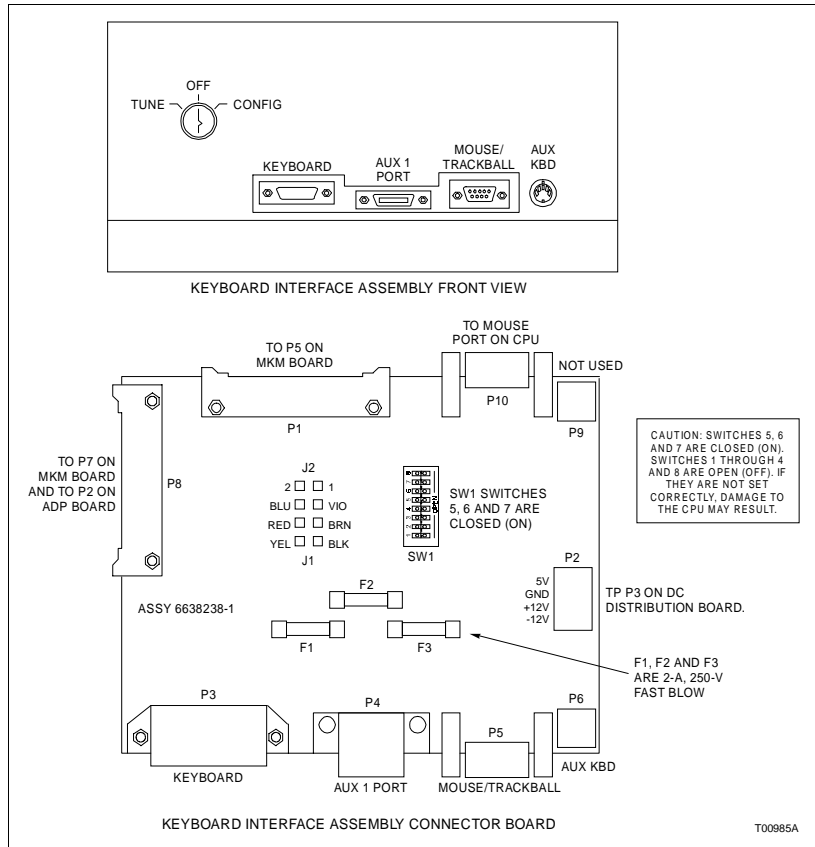

Figure 6-8. Keyboard Interface Assembly
The keyboard socket is for the operator keyboard supplied with the OIC consoles (Fig. 6-8). The AUX 1 port is for a tabletop annunciator/display panel. The auxiliary keyboard connector is for an engineering keyboard. Connector P9 is not used.
7. Refer to Figure 6-8 for SW1 settings on new keyboard interface assembly.